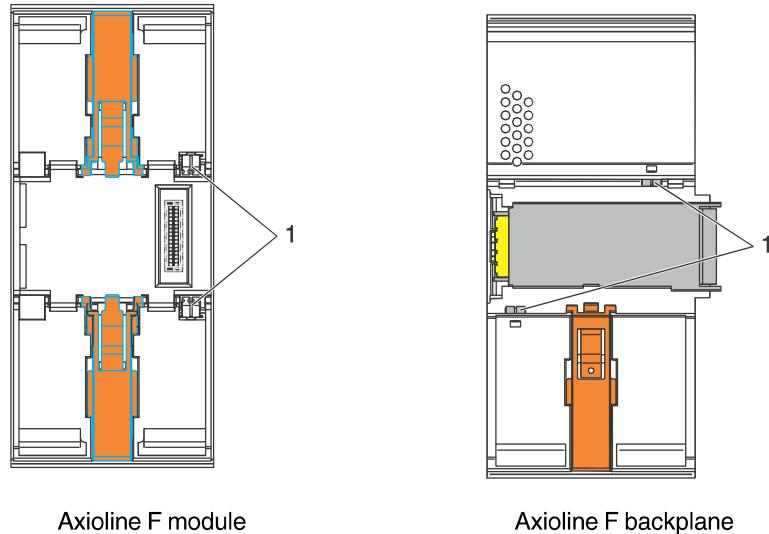

Figure 9-1      FE spring (1)
- 1 The AxioLine F modules (controller, bus coupler, backplanes, I/O modules) have at least one FE spring (metal clip, 1 in Figure 9-1) at the bottom. This spring establishes an electrical connection to the DIN rail when the module is mounted.